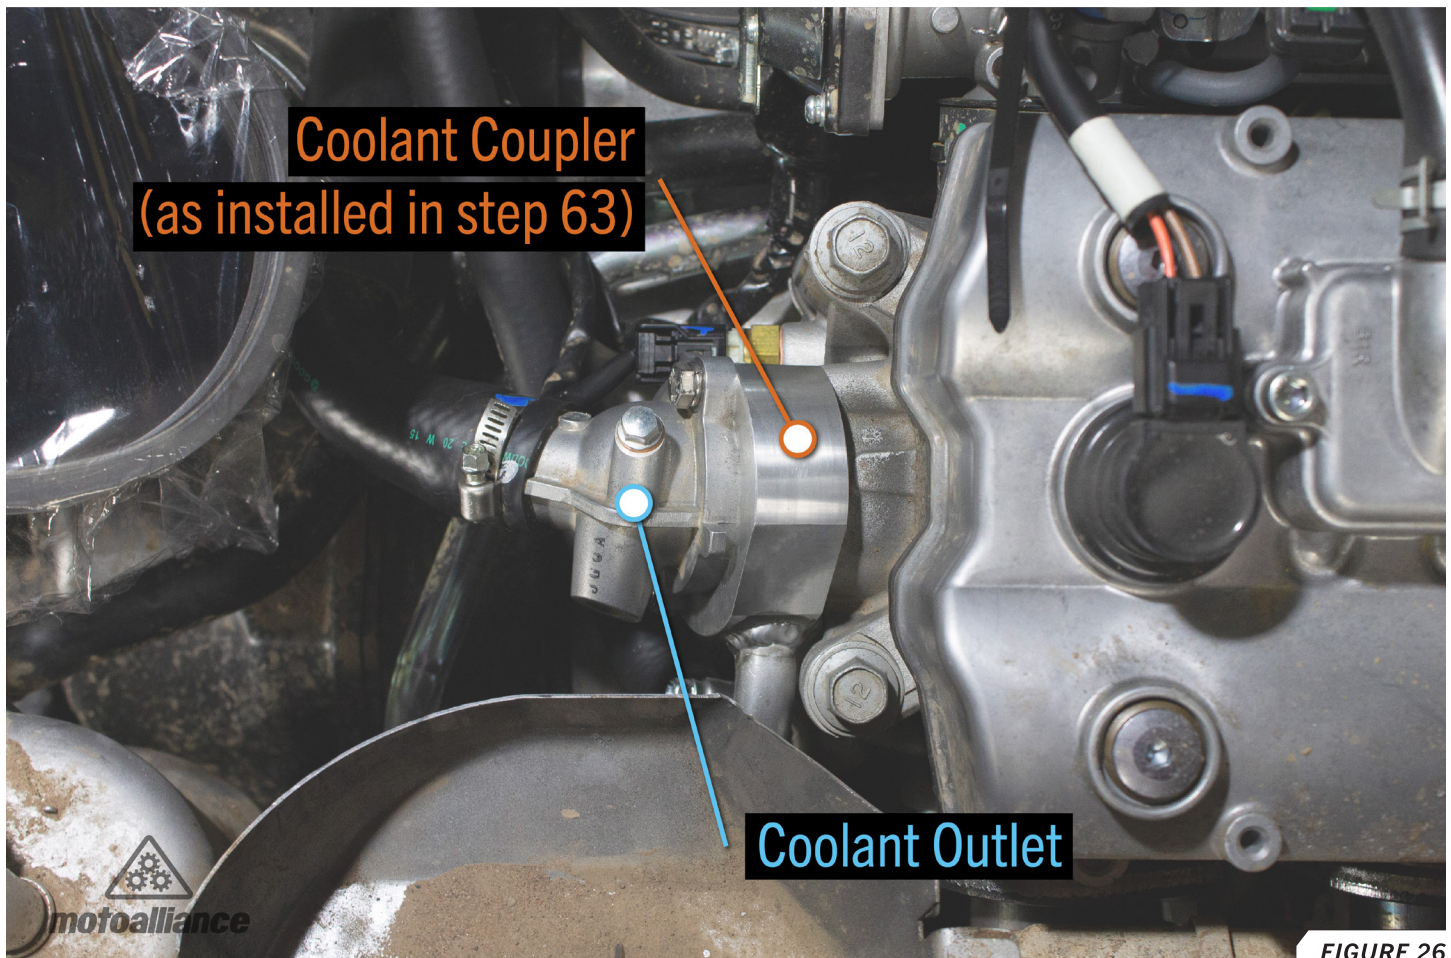

FIGURE 26
60. Find the coolant outlet on the engine. *FIGURE 26*
63. Place the coolant coupler between the coolant outlet and the engine block, with the $\frac{5}{8}$ " radiator hose on the bypass kit facing down and forward. *FIGURE 26*